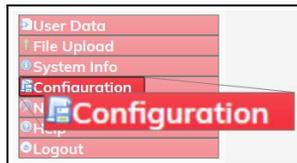

Figure 260: Configuration link
4. On the **Menu** list, click the **Configuration** link. Figure 260